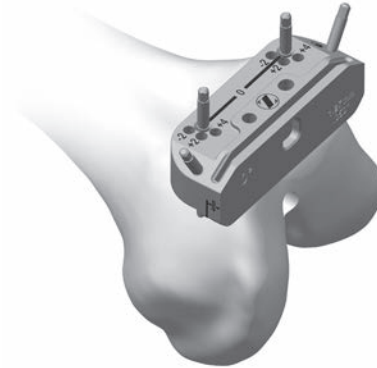

Fig. 14
- Insert a Trocar Tipped Pin through at least one of the locking, or oblique, pin holes in the Cut Guide to further secure the Cut Guide to the femur (Fig. 14).